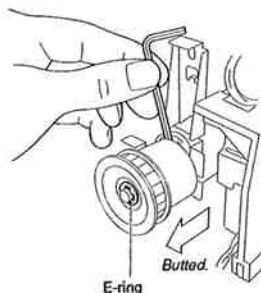

Figure 4-240
- 2) Push the clutch in the direction of the arrow shown in Figure 4-240, and tighten the hex screw with the E-ring and the clutch pulley in contact with each other.